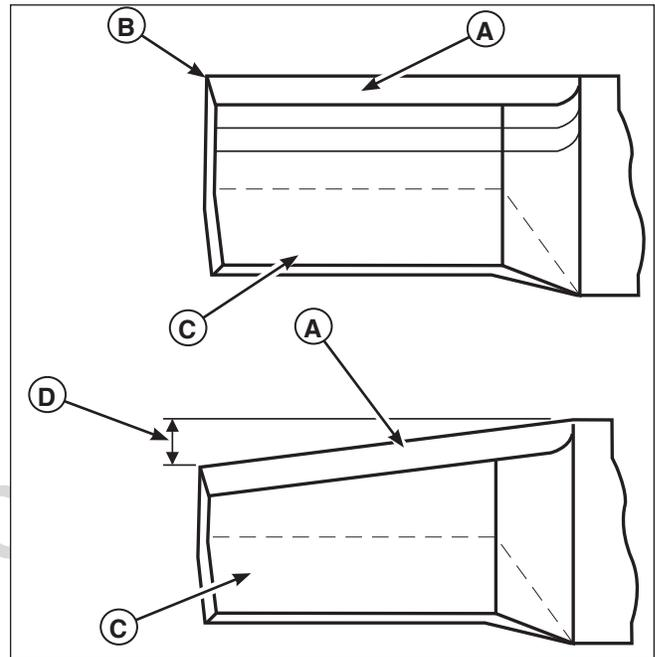

Figure 27. Inspecting the Mower Blade Tips
2. Inspect the mower blade (Figures 27 & 28). **Discard the mower blade if it has any of the below conditions.**